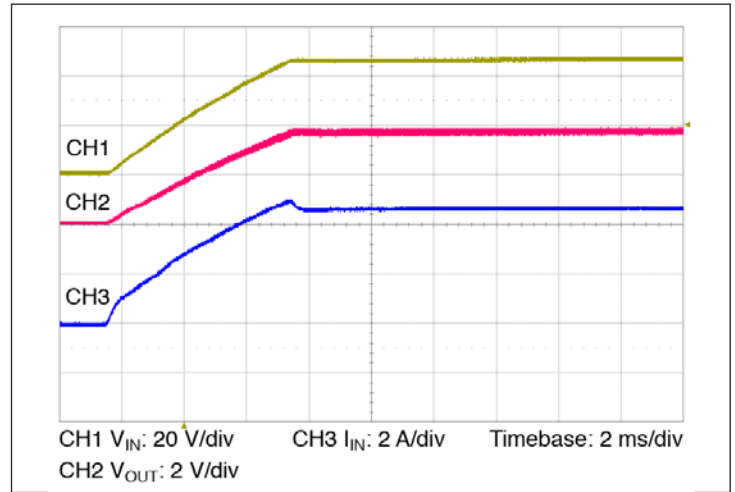

Figure 10 – Start up from application of V_{IN} ; VC pre-applied $C_{OUT} = 9100 \mu F$
- Normal operation (VC applied prior to V_{IN}): In this case the controller is active prior to ramping the input. When the input voltage is applied, the VTM output voltage will track the input (See Figure 10). The inrush current is determined by the input voltage rate of rise and output capacitance. If the VC voltage is removed prior to the input reaching 26 V, the VTM may shut down.